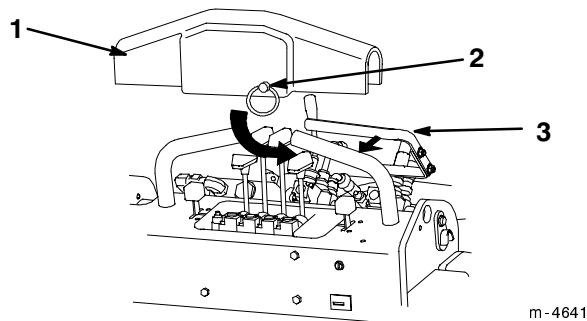

Figure 15
3. Pull the auxiliary hydraulics lever to the operator grip and install the hydraulics lever clamp by pushing it over the hand grip and sliding it right so that the pin through the clamp slides under the right hand grip (Fig. 15).
5. Remove the hydraulics lever clamp (Fig. 15).